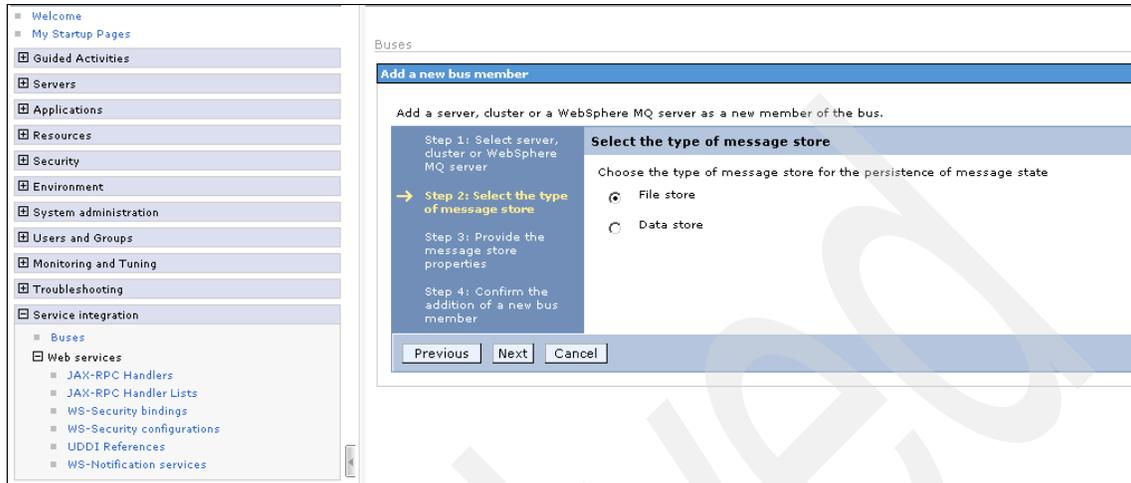

Figure A-26 File store
2. Check that the **File store** radio button is selected, and then click **Next** (see Figure A-26).